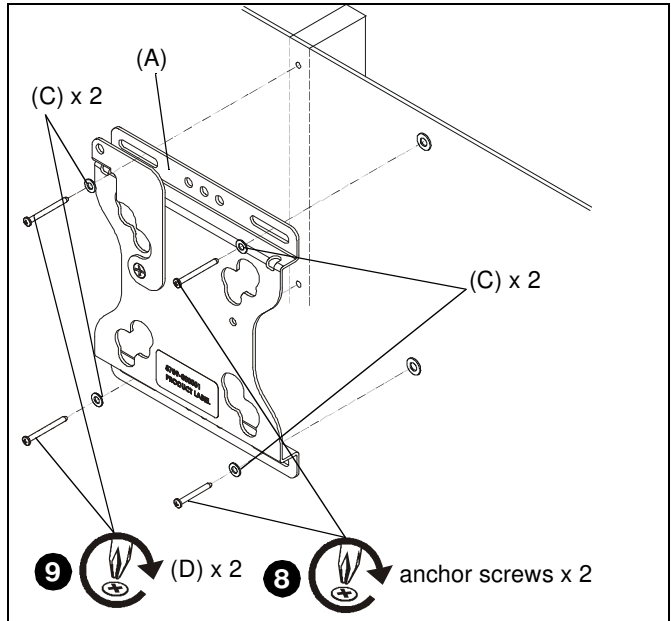

Figure 5
8. Insert anchor screws through two #10 washers (C), FSR assembly (A) and install into collapsed anchors (B). (See Figure 5)
9. Install two #10 x 2 1/2" Phillips tapping screws (D) through two #10 washers (C), FSR assembly (A) and into wood stud. (See Figure 5)